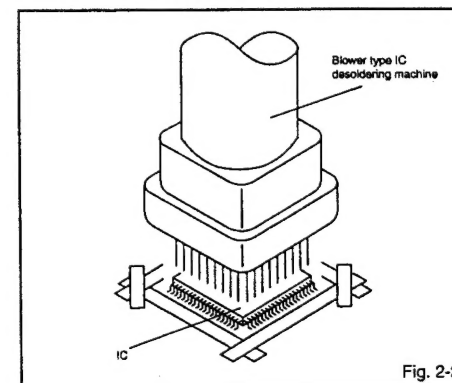

Fig. 2-2
2. Heat the IC leads using a blower type IC desoldering machine. (Refer to Fig. 2-2.)